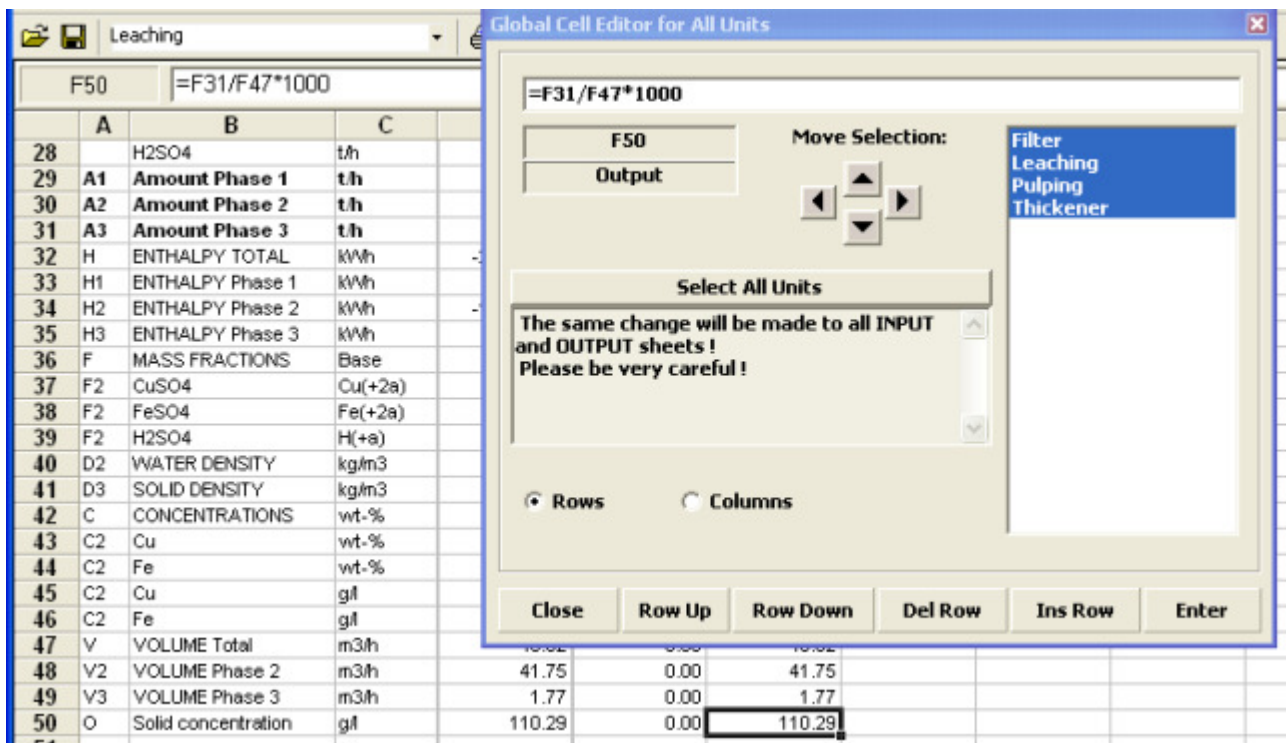

Figure 3: The Global cell editor.
- Copy the formula to the other units with the Global cell editor, Chapter 40.16. Open the Cell editor from Excel editor – Tools – Cell editor... Select the first cell where the previously-made formula is and press the Enter button in the Cell editor window. Do the same for all three cells that have the formula. After that the formula is in every unit in input and output sheets. Please see Figure 3.